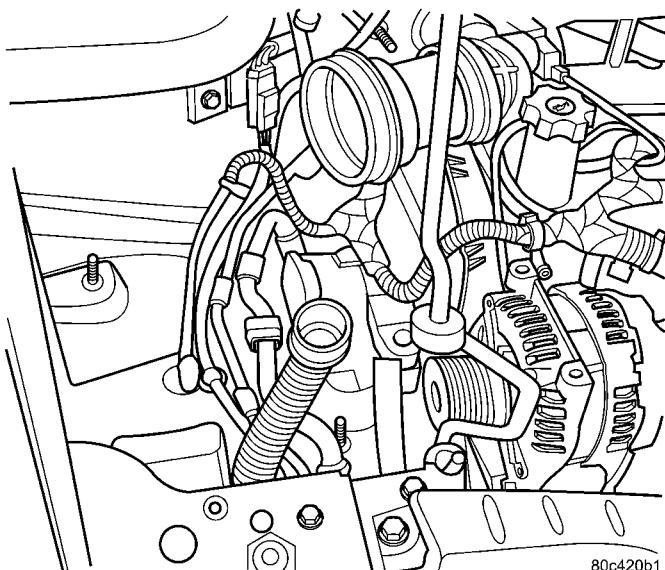

Fig. 7 AIR BOX REMOVED
(10) Remove the Air Cleaner Box (Fig. 7).
- (3) Install the Air Cleaner Box (Fig. 7).